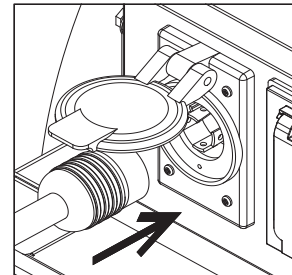

Figure 3-37. Utility Cord Installation to Unit
- See **Figure 3-37**. Install 120 V, NEMA 5-15 cord to unit power inlet port.